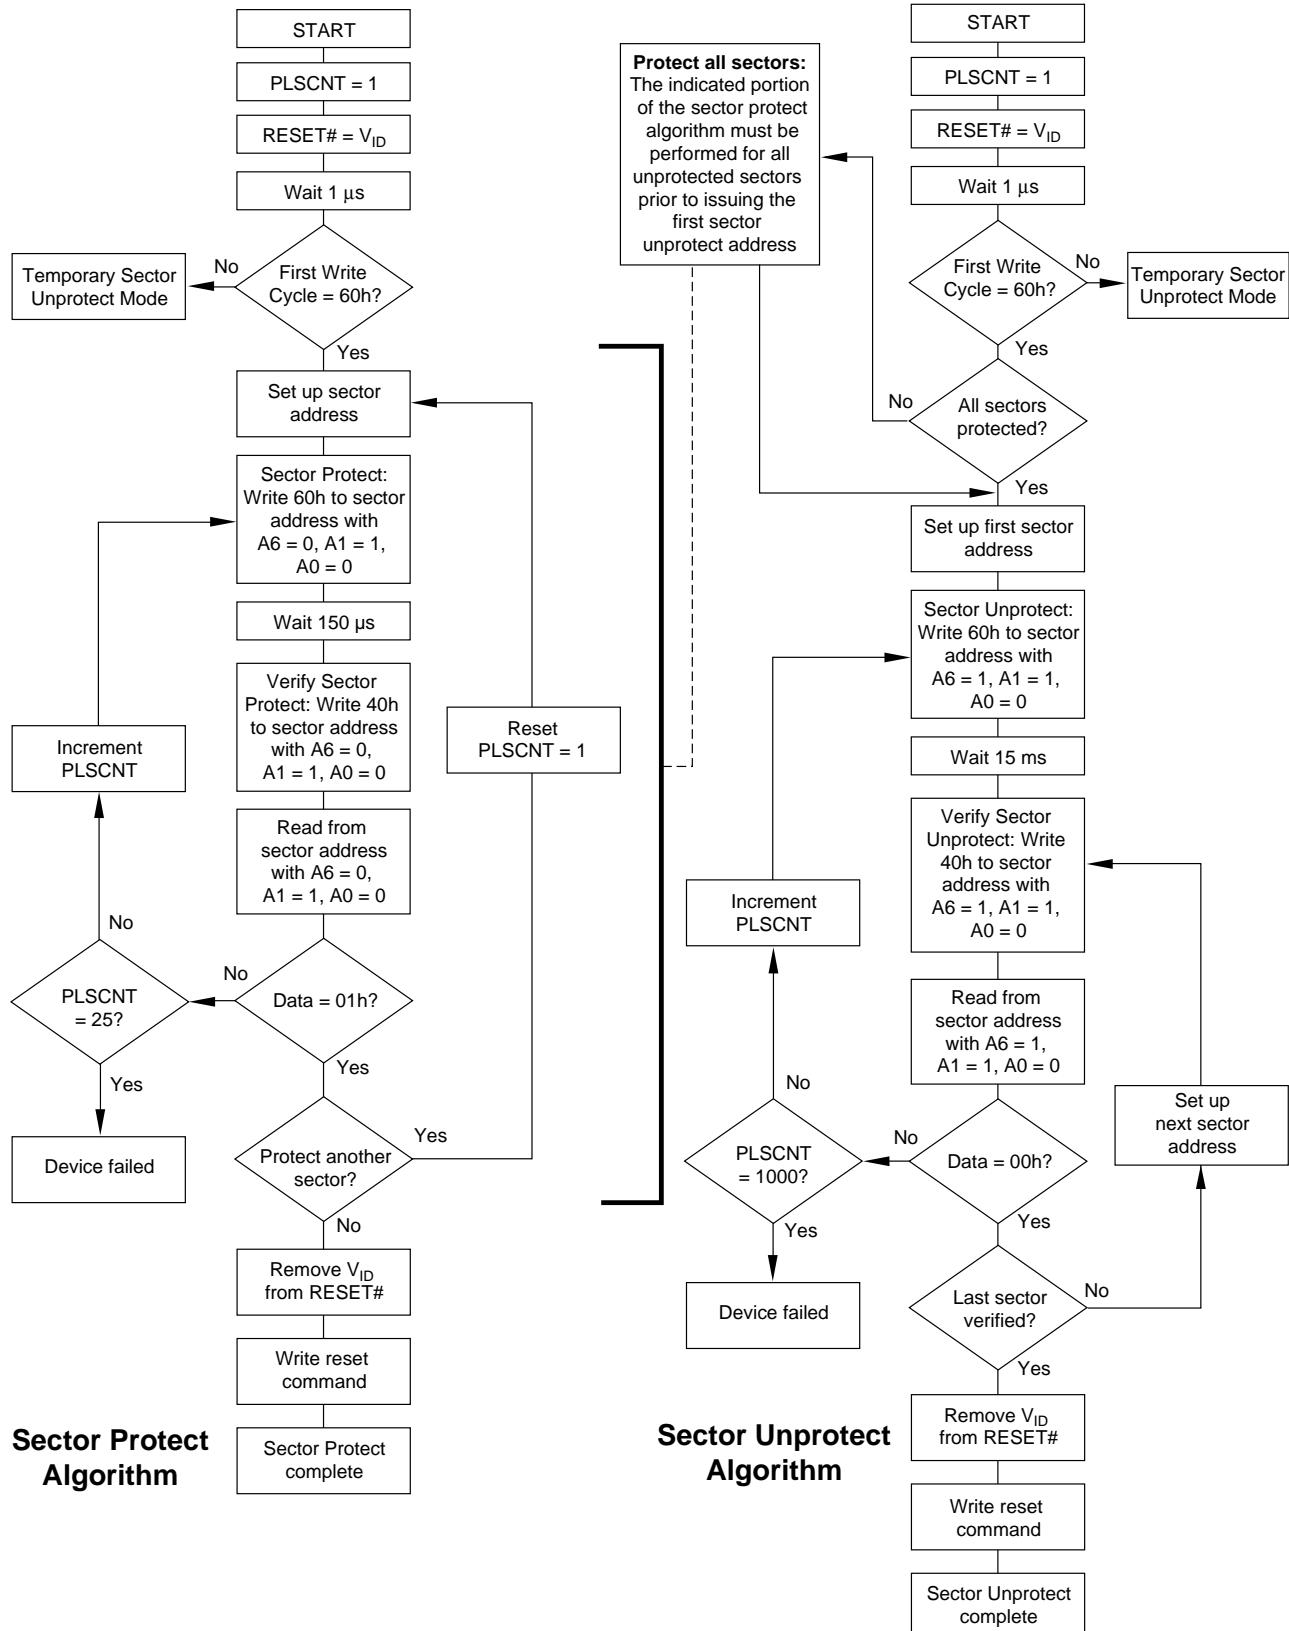

Figure 2. In-System Sector Protect/Unprotect Algorithms
Sector protection/sector unprotection requires V_{ID} on the RESET# pin only, and can be implemented either in-system or via programming equipment. Figure 2 shows the algorithms and Figure 26 shows the timing diagram. For sector unprotect, all unprotected sectors must first be protected prior to the first sector unprotect write cycle. *Note that the sector unprotect algorithm unprotects all sectors in parallel. All previously protected sectors must be individually re-protected.* To change data in protected sectors efficiently, the temporary sector unprotect function is available. See “Temporary Sector Unprotect”.
- Write the three-cycle Enter SecSi Sector Region command sequence, and then follow the in-system sector protect algorithm as shown in Figure 2, except that *RESET#* may be at either V_{IH} or V_{ID} . This allows in-system protection of the SecSi Sector Region without raising any device pin to a high voltage. Note that this method is only applicable to the SecSi Sector.